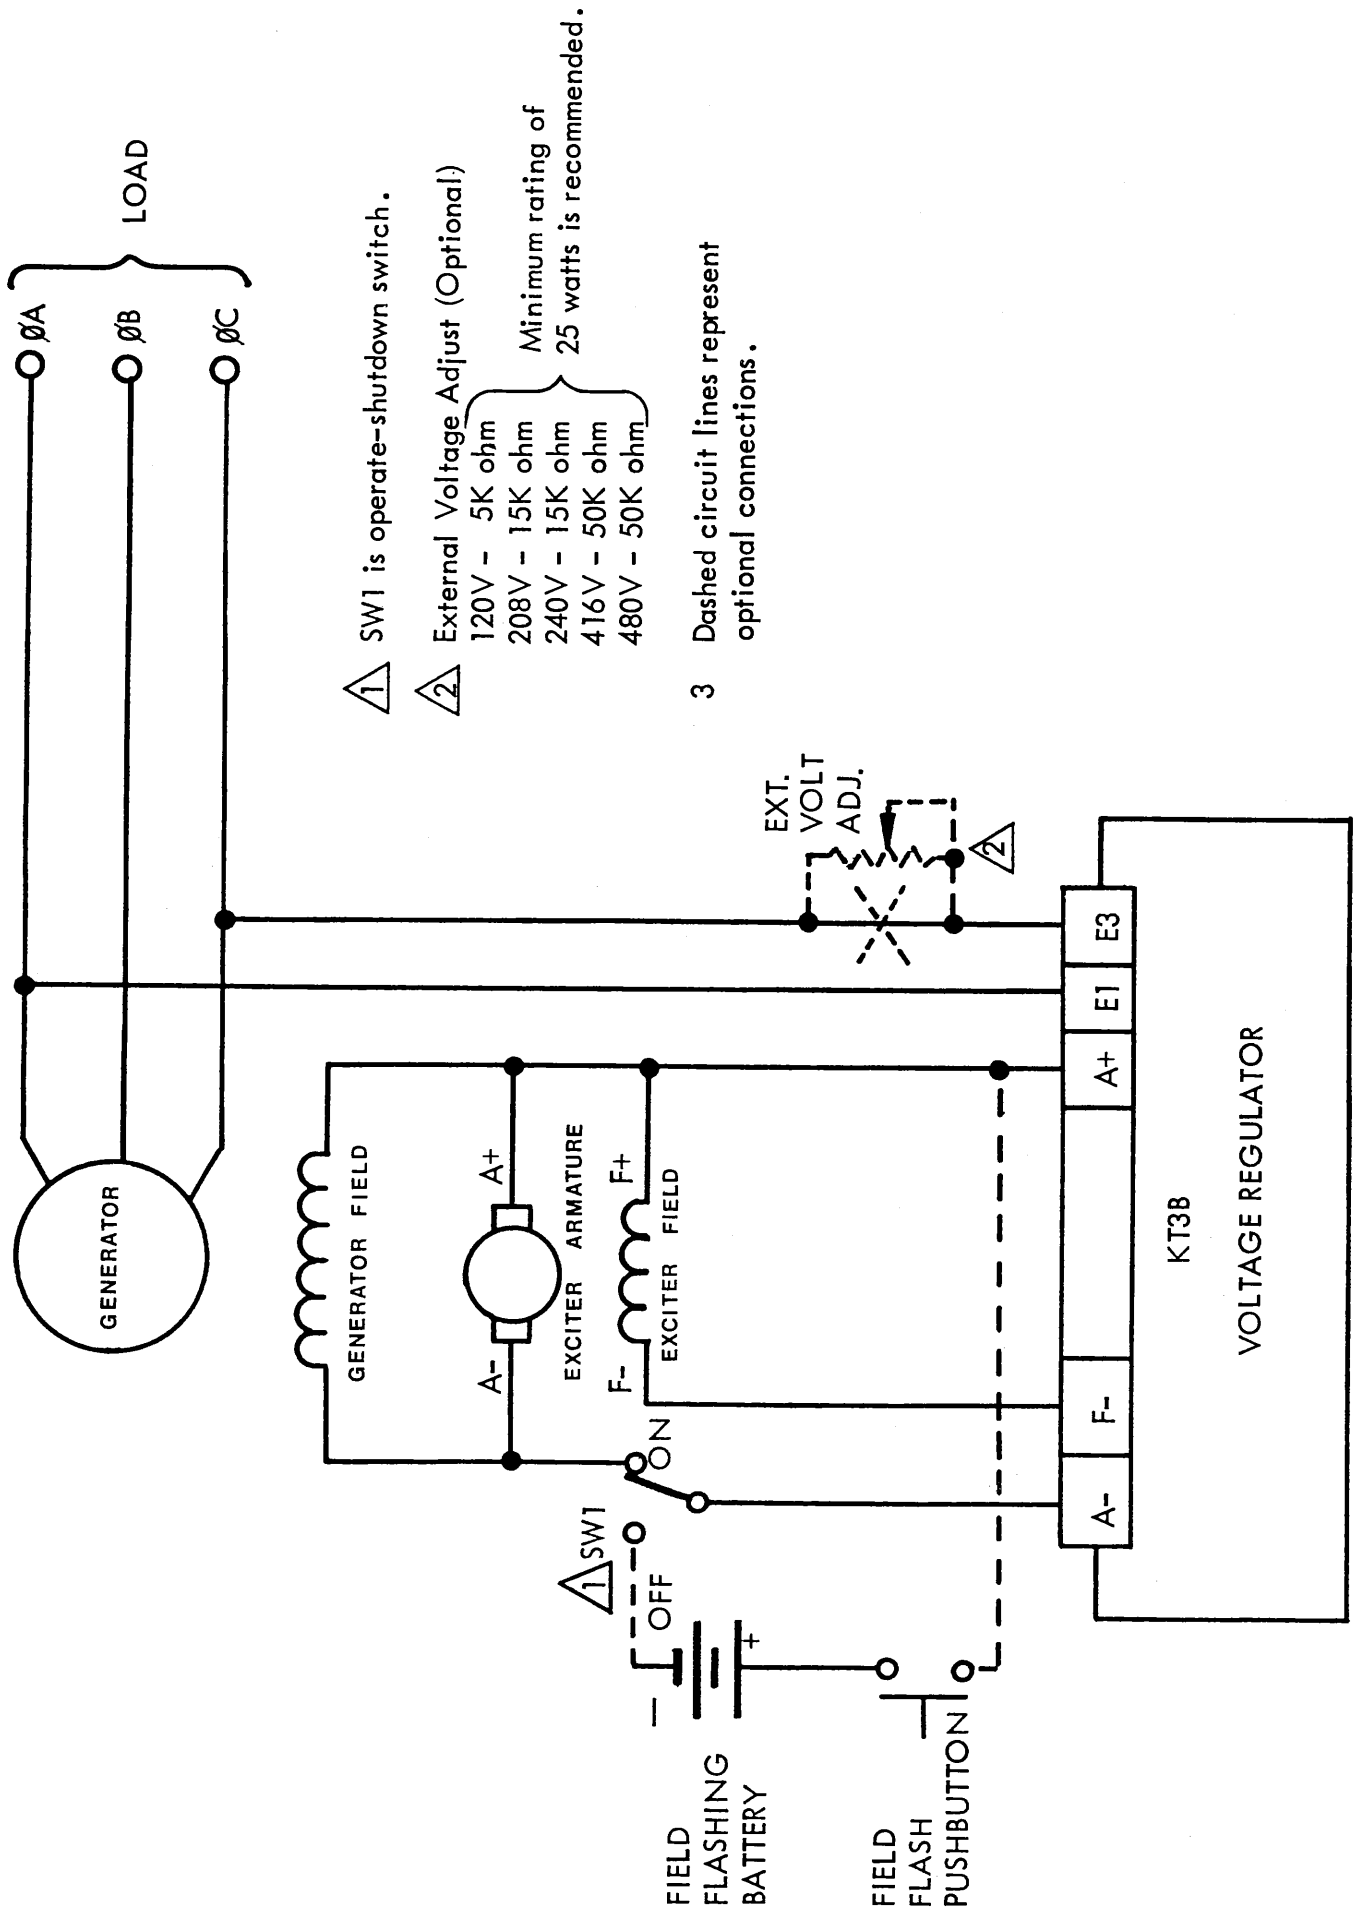

FIGURE 3 - INTERCONNECTION DIAGRAM
2.1.2 When the regulator is used in a system that includes a conventional rotary inverter the power for the field and regulator is taken from the armature of the exciter (see Figure 3).
2.2.2 The voltage regulator must be connected to the generator system exactly as indicated in the interconnection diagram (Figure 3). A thorough check and test should be made to determine that all connections are made to all terminals in the manner specified. An electrical test using an ohmmeter is the preferred method of checking for correct connections. Number 18 gauge wire or larger should be used to connect the voltage regulator in order to carry the required currents.
3.1.1 The voltage regulator should be operated only at voltages and frequencies specified for the equipment. The speed of the prime mover should be the normal operating speed corresponding to the normal output frequency of the generator. If operation at reduced speed is required, then place switch SW1 in the OFF position in order to prevent possible damage to the regulator and the load equipment. (See Figure 3.)
3.2.1 Normally there is a sufficient amount of residual output voltage (3-5 Vdc) for the exciter to initiate a build-up of generator voltage. For new installations or for operation after prolonged shutdowns, it may be necessary to flash the field to obtain build-up. Figure 3 shows the preferred field flashing set up, incorporating a pushbutton switch in addition to the SPDT switch (SW 1), which allows momentary applications of the field flashing voltage when SW1 is in the OFF position. Switch SW1 should be placed in the ON position immediately after the generator output voltage begins to build up.
3.4.1 An internal variable resistor (R6) is provided for adjusting the regulated voltage over a range of $\pm 10\%$ of the nominal voltage. The adjustment can be made with a screwdriver inserted through the opening in one side of the unit. A variable resistor can be series connected in either sensing line (terminals E1 and E3) to provide an external voltage adjustment (see Figure 3).